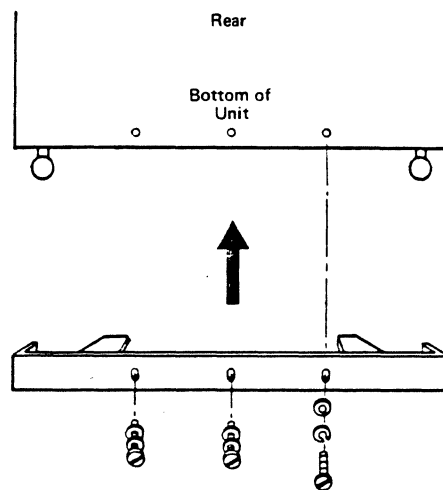

Figure 7-19. Installing the Rear Ground Plates
24. Using three screws (PN 33620), three lock washers (PN 9092), and three flat washers (PN 45690), secure the plate while pressing the plate firmly against the floor (Figure 7-19). Tighten the screws.